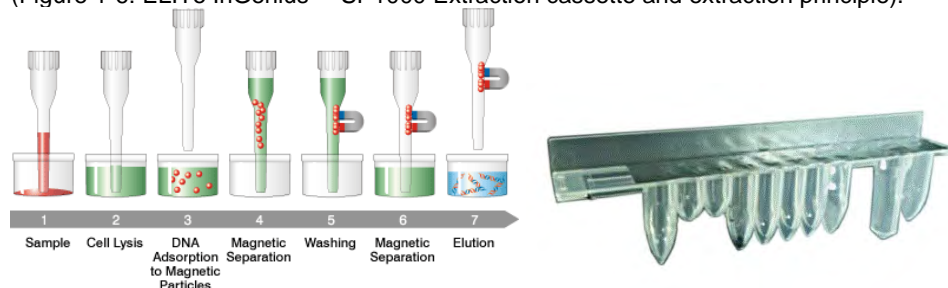

Figure 1-6: Nucleic acid extraction principle and ELITE InGenius SP 1000 extraction Cassette
- The reagent set has been optimized for the isolation of nucleic acids from up to 1 mL of samples. (Figure 1-6: ELITE InGenius – SP1000 Extraction cassette and extraction principle).